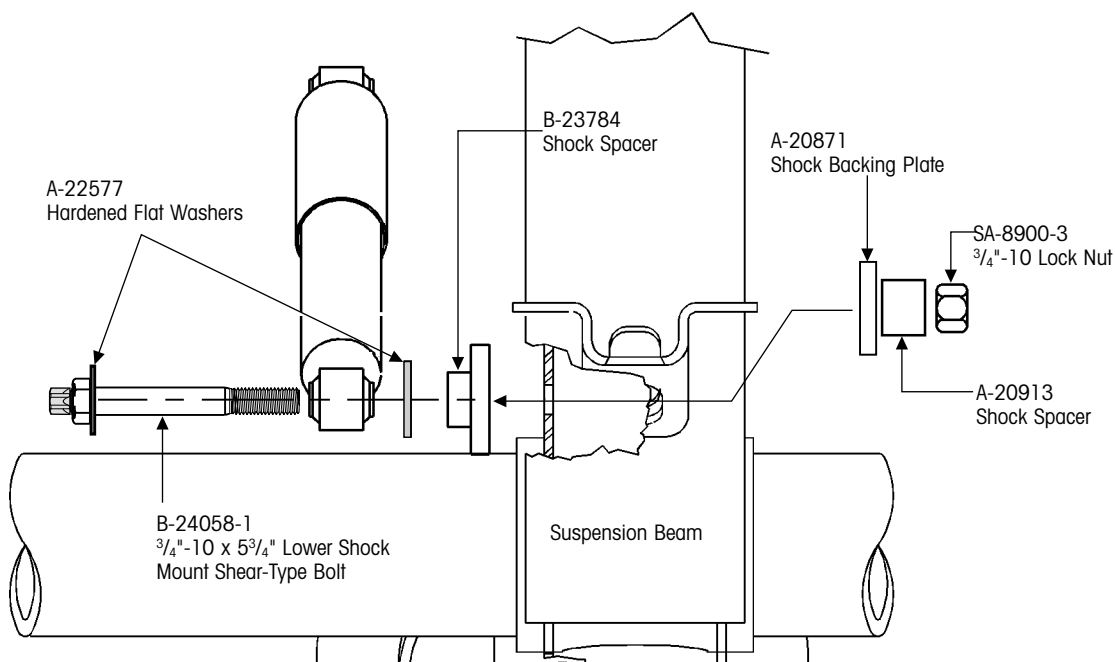

Figure 5. AA230/AA250 Rev. B (Damaged Thread)
8. Install the shear-type shock bolt and external hardware per step #5 in the previous procedure (Figure 5, page 6).